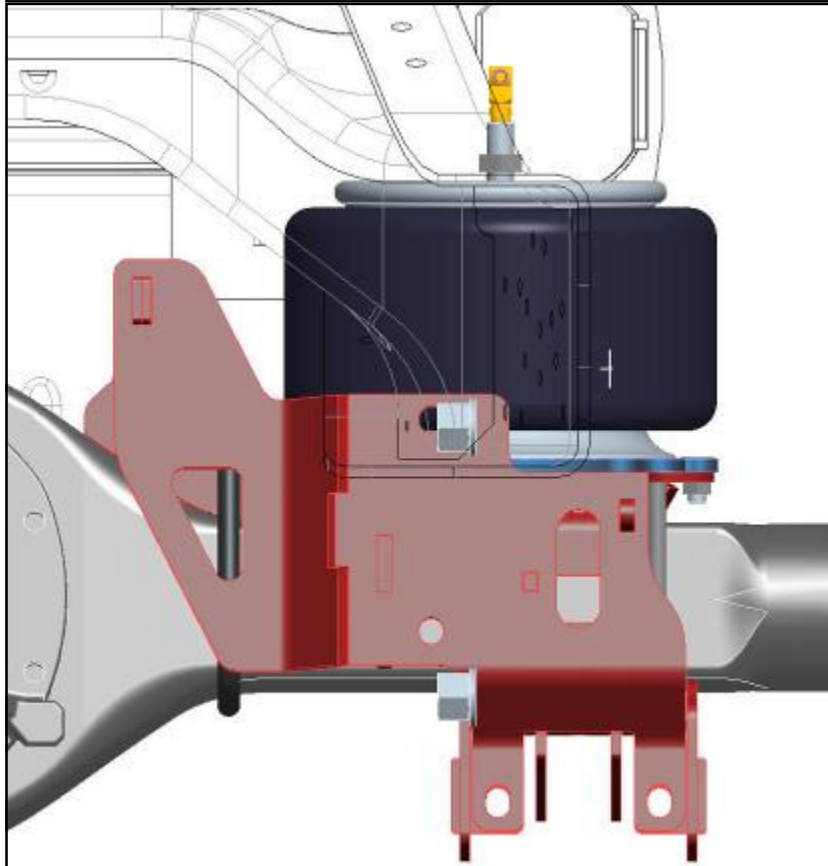

FIG. 3-3
3. Place the UPPER AXLE BRACKET into position and raise LOWER SHOCK MOUNT BRACKET into position as shown in Fig. 3-1. Loosely fasten two brackets together using (4) 1/2 X 8 UNC HEX BOLTS and (4) 1/2 UNC TOP LOCK FLANGE NUTS. With these two brackets loosely connected, slide both brackets inward until the UPPER AXLE BRACKET fits the contour of the axle tightly as shown in Fig. 3-3. Slide (1) 5/8 UNF U-BOLT into position as shown in Fig. 3-1. Loosely Assemble (2) 5/8 HARDENED WASHERS, and (2) 5/8 UNF FLANGE NUTS. See following illustrations for details. Torque later. **Before tightening of U-Bolts ensure that the UPPER AND LOWER AXLE BRACKETS are aligned properly as shown in Fig. 3-3.**